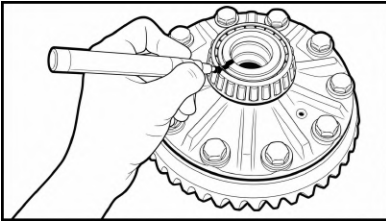
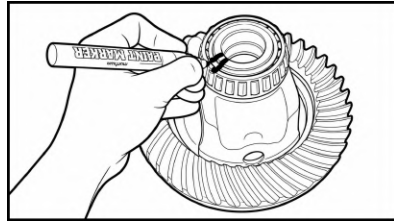

Fig. 8
Fig. 9
1.12 Match-mark the bearing cones that will be reused: one mark for the ring gear side and two marks for the opposite side. This ensures that each reused bearing cone is installed on the same side as its original matching bearing cup remaining in the differential housing. (**Fig. 8, Fig. 9**)